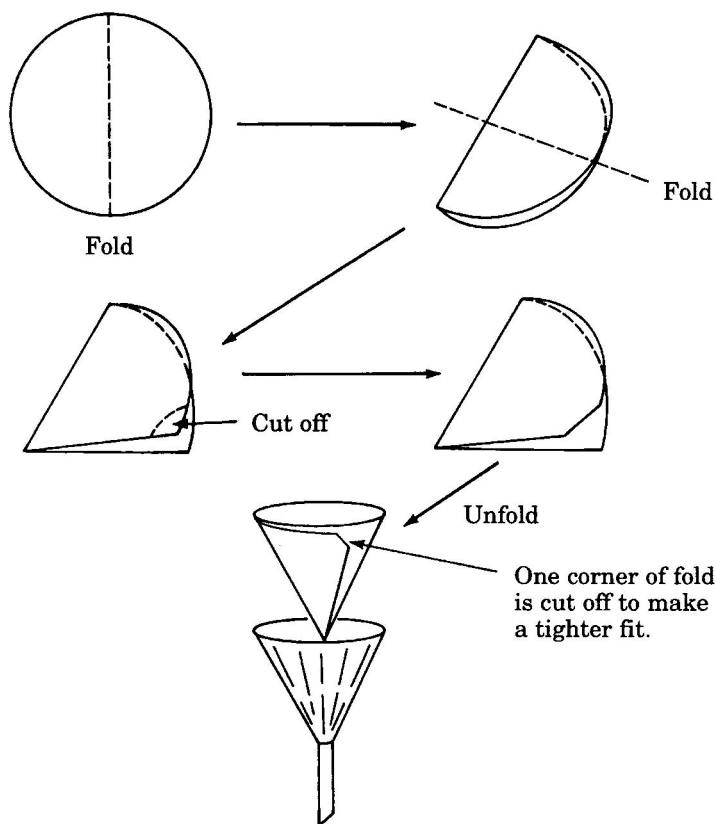

Figure 3.5
8. Fold a piece of filter paper following the technique shown in Figure 3.5.